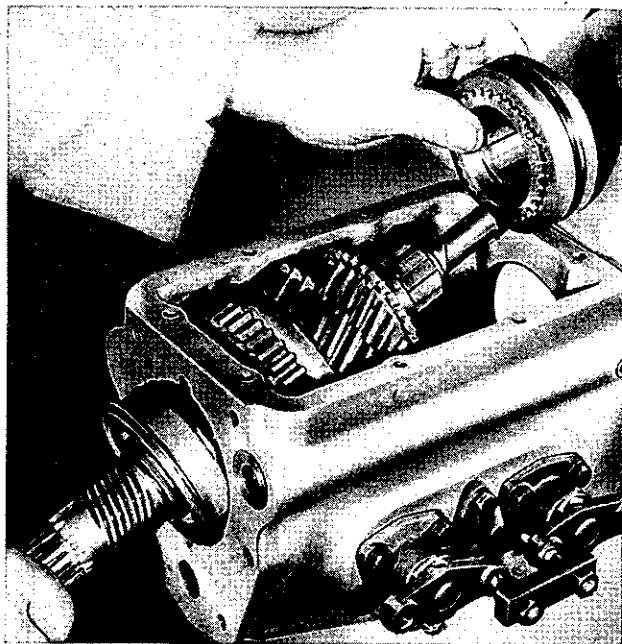

Fig. 9. Fitting or removing second and top gear assembly
12. Tap the mainshaft towards the rear with a soft metal drift as shown in Fig. 8 sufficiently to clear the bearing of its housing and then tilt the shaft sufficiently to enable the Second and Top Synchro Unit to be withdrawn as shown in Fig. 9. Note position of the